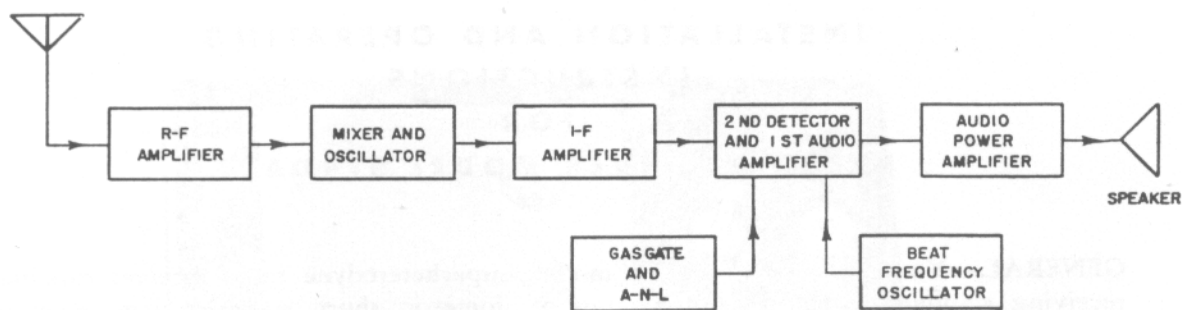

Figure 2. Radio Receiver Model S-40A, AU, block diagram showing receiver circuits.
**ELECTRICAL DESCRIPTION.**—The block diagram, Figure 2, illustrates the function of the receiver circuits in a simple manner which is described as follows: radio signals are picked up at the antenna and fed to the antenna coil of the r-f stage where the desired station signal is selected by a resonant circuit and fed to the mixer-oscillator tube.